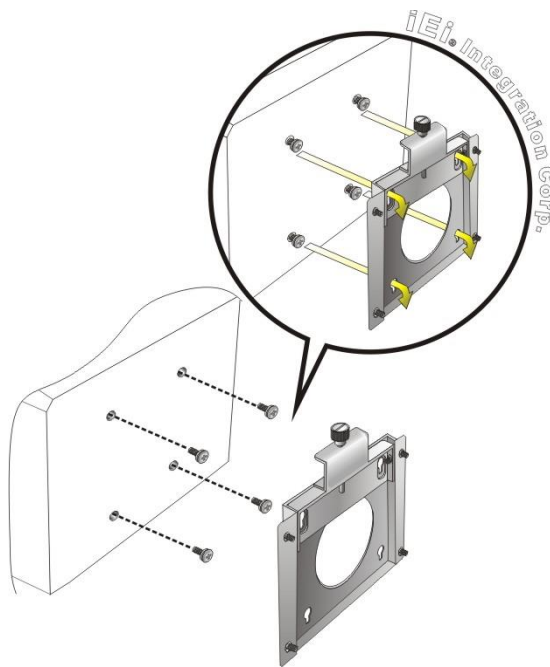

Figure 3-7: Chassis Support Screws
Step 6: Insert the four monitor mounting screws provided in the wall mount kit into the four screw holes on the rear panel of the panel PC and tighten until the screw shank is secured against the rear panel (**Figure 3-7**).